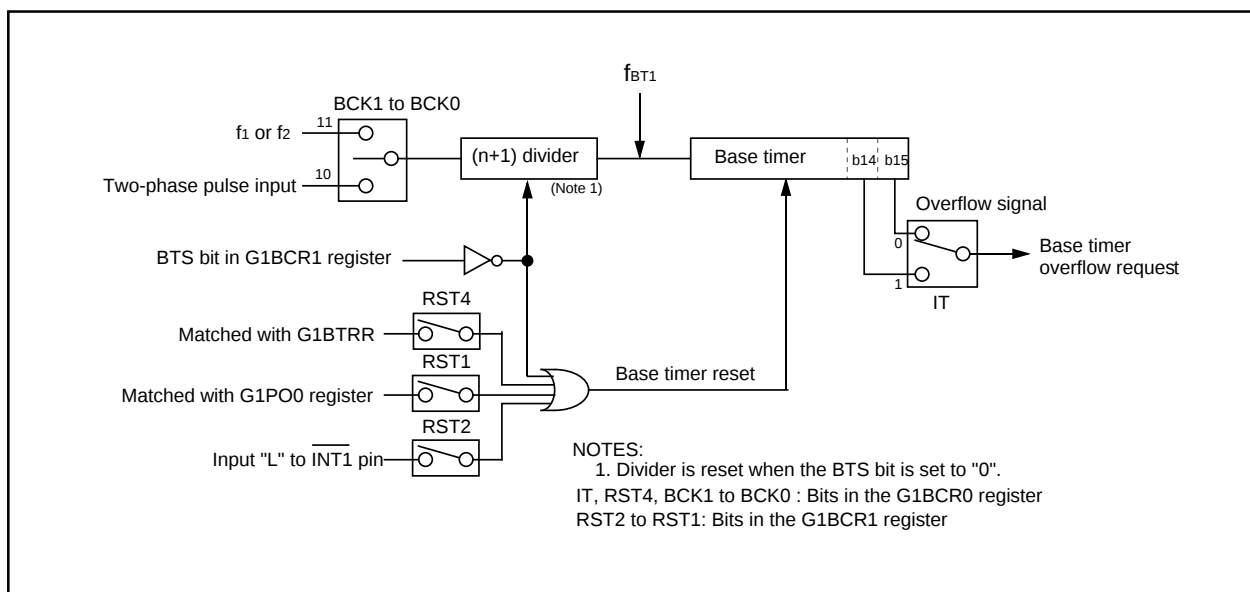
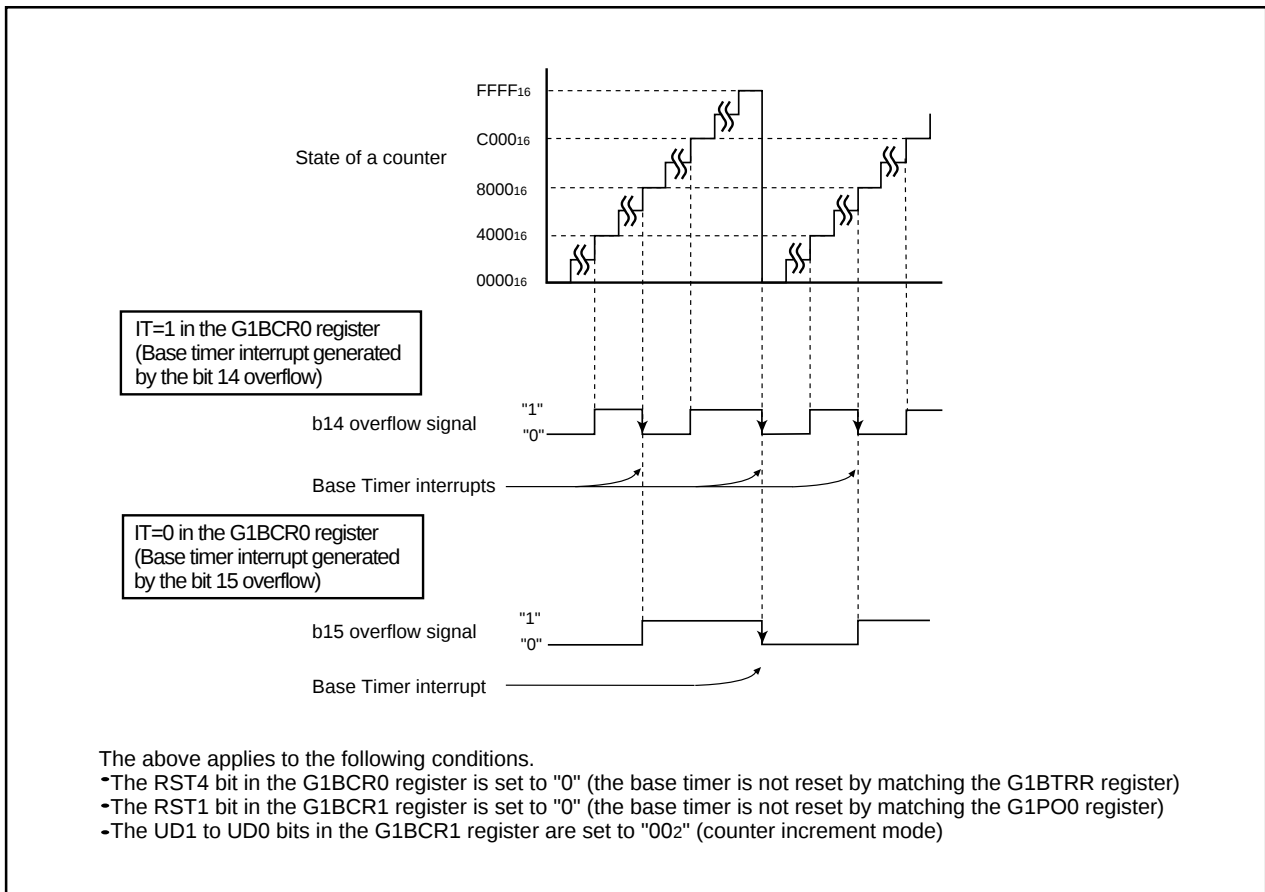
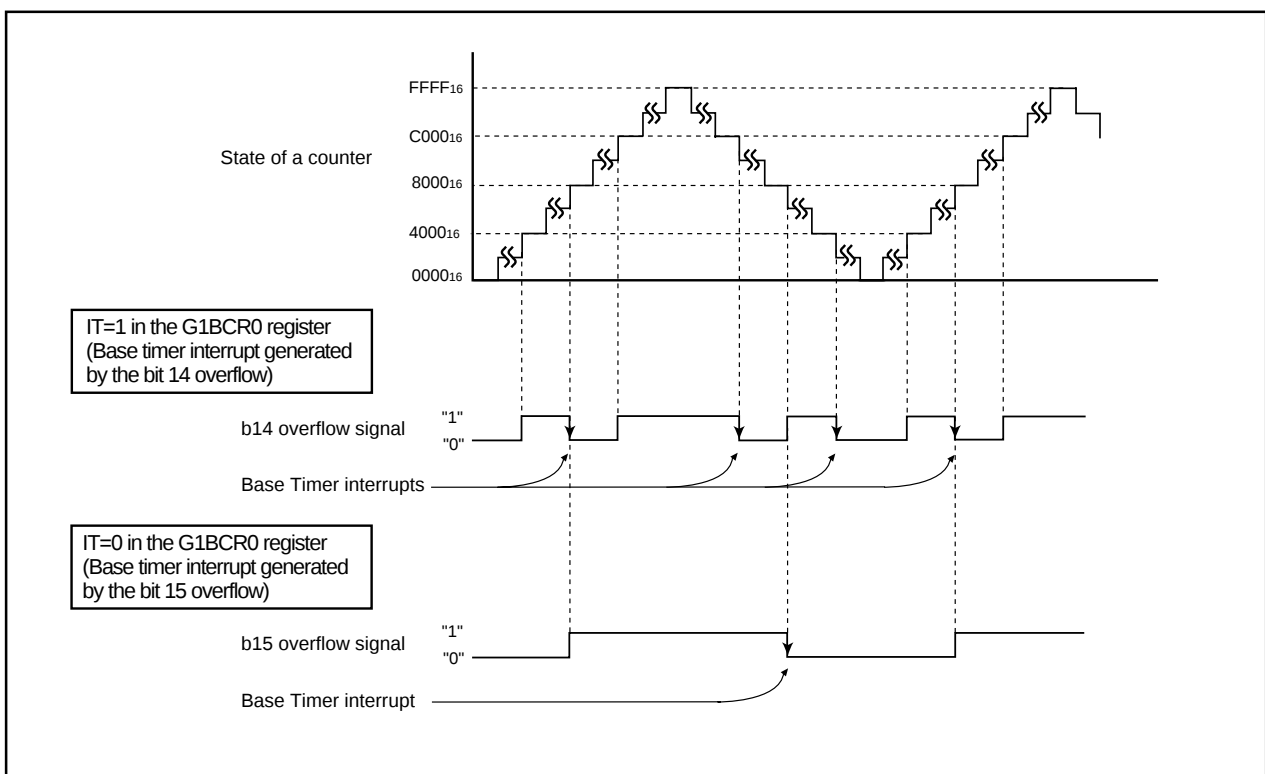
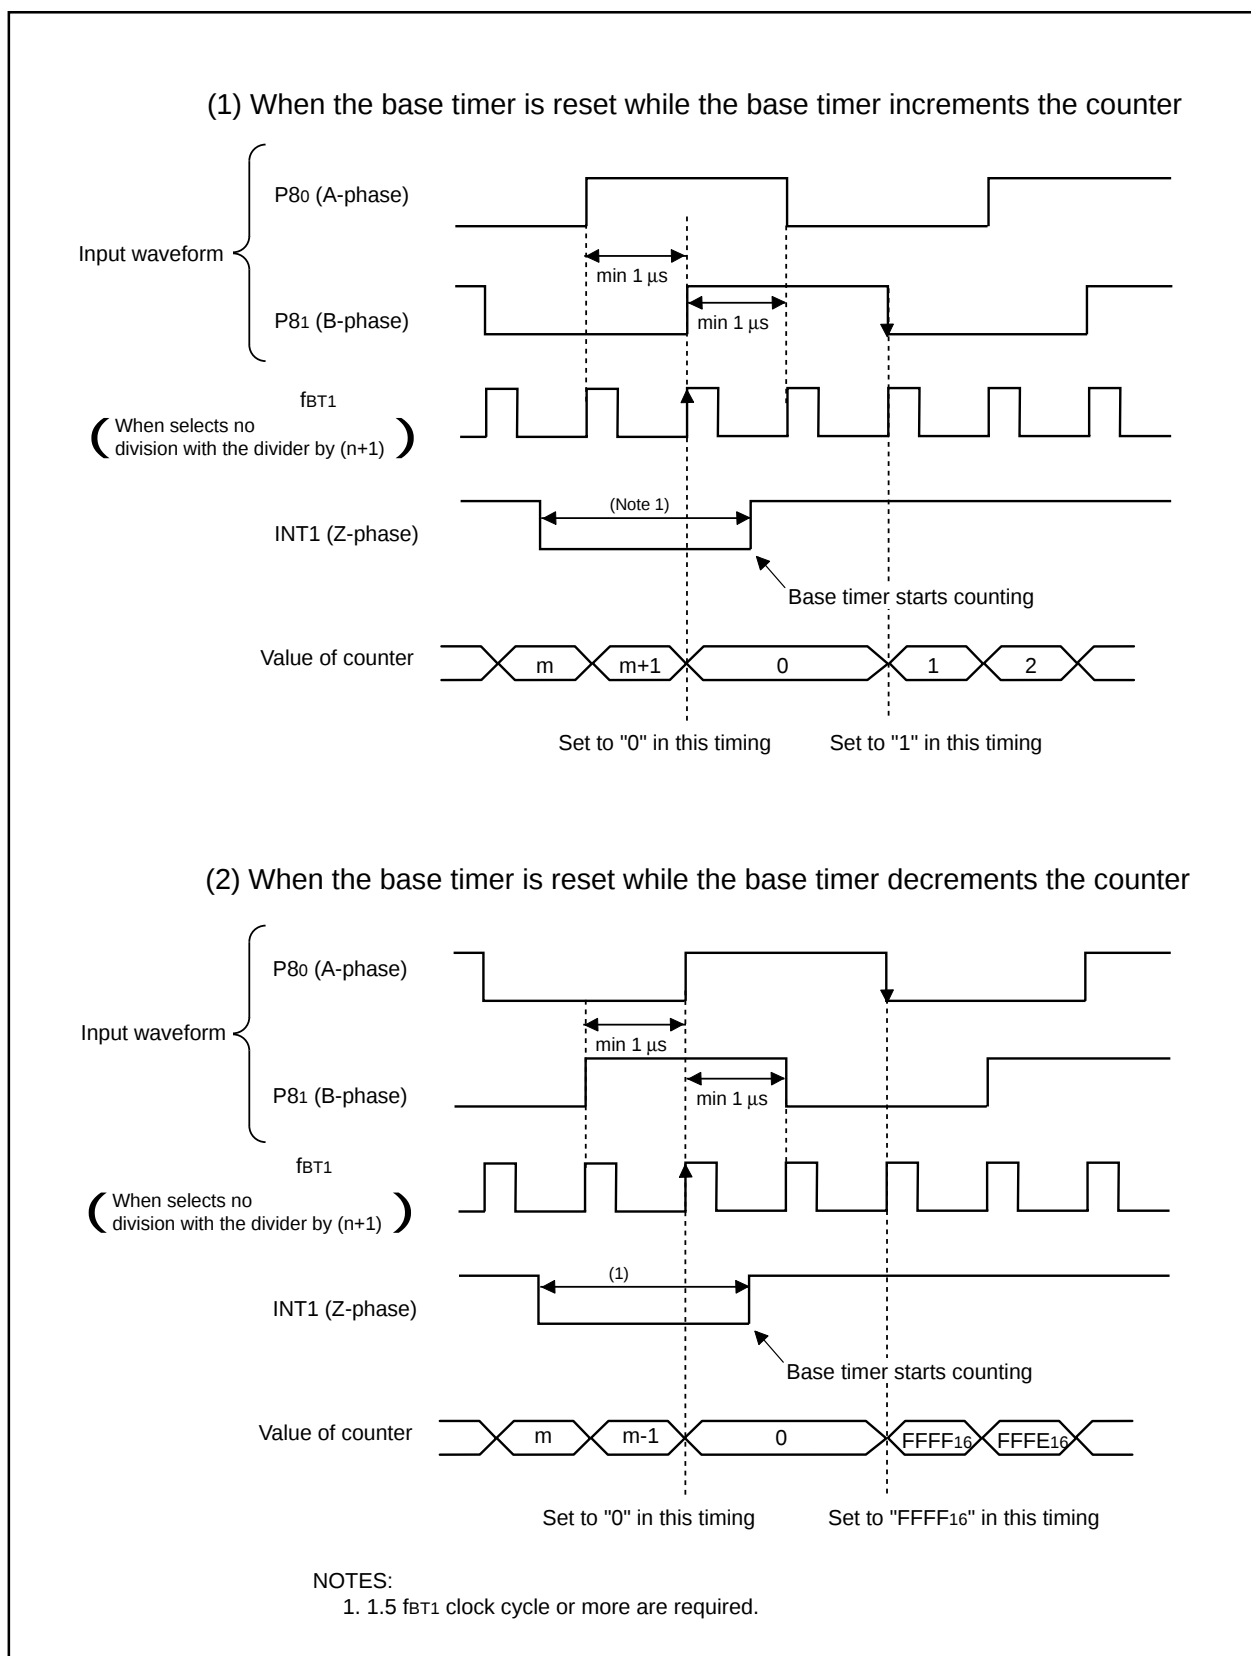

Figure 13.11 Base Timer Block Diagram
Figure 13.12 Counter Increment Mode
Figure 13.13 Counter Increment/Decrement Mode
Figure 13.14 Base Timer Operation in Two-phase Pulse Signal Processing Mode
Figure 13.11 shows a block diagram of the base timer. **Figure 13.12** shows an example of the base timer in counter increment mode. **Figure 13.13** shows an example of the base timer in counter increment/decrement mode. **Figure 13.14** shows an example of two-phase pulse signal processing mode.
Interrupt request	The base timer interrupt request is generated: (1) When the bit 14 or bit 15 in the base timer overflows (2) The value of the base timer value matches the value of the base timer reset register (See Figure 13.11)
Selectable function	- Counter increment/decrement mode The base timer starts counting from "0000₁₆". After incrementing to "FFFF₁₆", the timer counter is then decremented back to "0000₁₆". The base timer increments the counter value again when the timer counter reaches "0000₁₆". (See Figure 13.13) - Two-phase pulse processing mode Two-phase pulse signals from P80 and P81 pins are counted (See Figure 13.14)